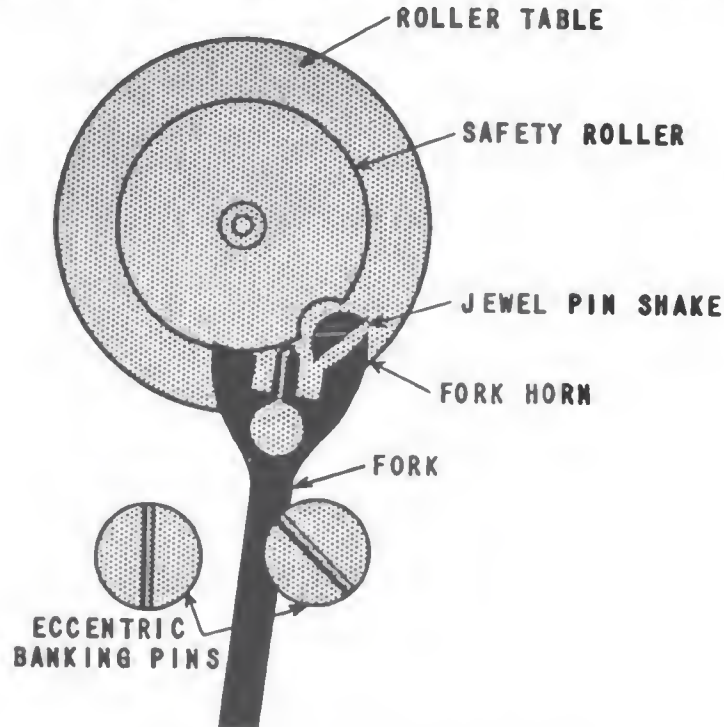

Figure 96. — Correct jewel pin shake.
The jewel pin shake should be slightly less than the lock, and should be tried at the position in which one escape wheel tooth drops off one pallet stone and another tooth locks on the other pallet stone. To be slightly less than the lock, it must not allow the escape wheel to unlock from the pallet stone when the fork is moved back and forth. Also, it must be great enough to allow the jewel pin to pass the horns of the fork (figure 96) with perfect freedom after the balance has been released. The
*Jewel pin shake.* — The jewel pin can be moved towards or away from the fork slot. The guard pin can be moved towards or away from the roller. If it is found that the jewel pin will not pass out of the fork slot after it is reset, it may be moved in the direction of the balance staff. Likewise, if there is too much jewel pin shake, the jewel pin may be moved a little way towards the fork slot. (See figure 96.)